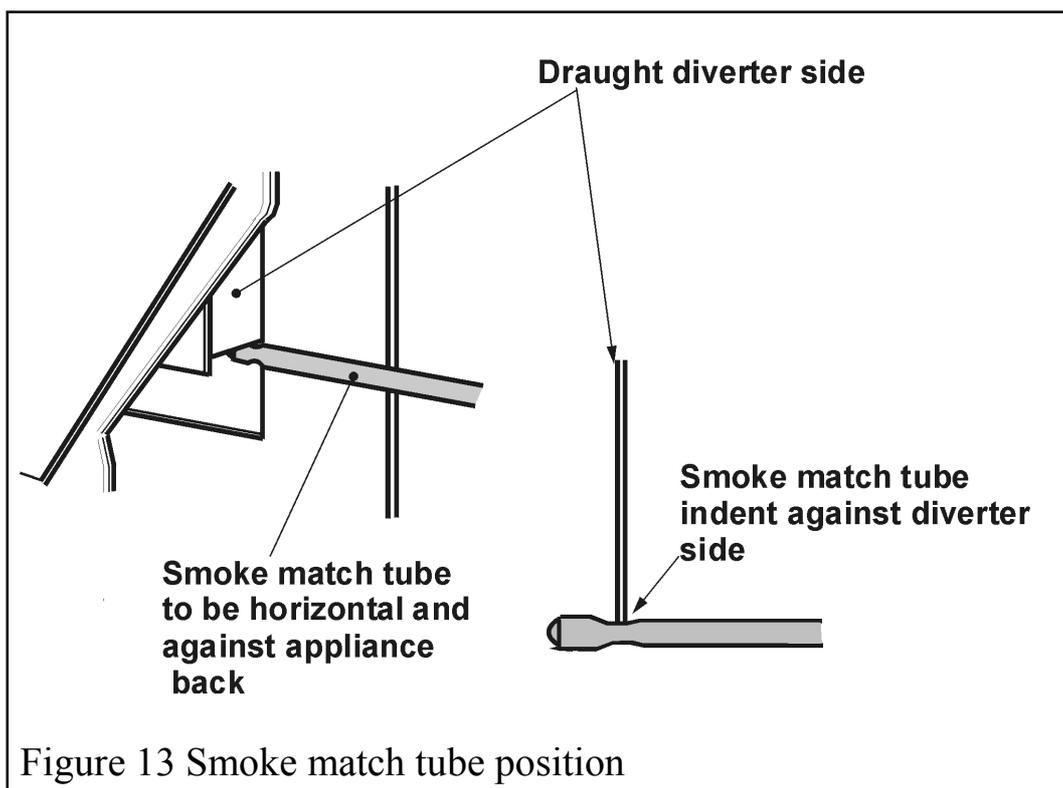

Figure 13 Smoke match tube position
**5.3.4** Insert the smoke match tube (with lighted match) into the side of the appliance and against the back panel. Position the tube so that it is horizontal, against the back panel and with its top edge touching the side of the draught diverter box. Slide the tube until the indent in the tube is level with the diverter side. See figure 13.